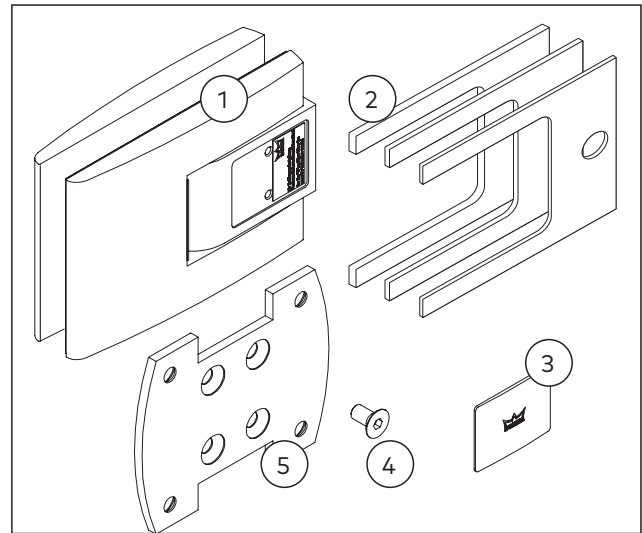

Fig. 6 Scope of delivery for the wall mounting with surface-mounted mounting plate
2 x double-action hinge (Fig. 6/ 1)
- ▶ Gaskets 4 x each with 3 different thicknesses: 1 mm, 2 mm, 3 mm (Fig. 6/ 2)
- ▶ 12 x cover cap in 3 different colors (Fig. 6/ 3)
- ▶ 8 x countersunk screw M6 x 12 (Fig. 6/ 4)
- ▶ 2 x mounting plate (Fig. 6/ 5)